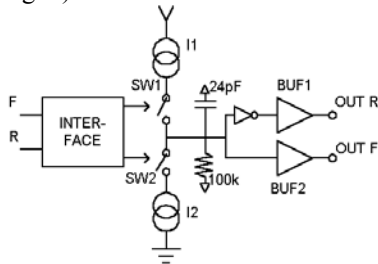
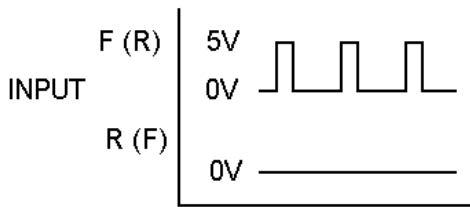
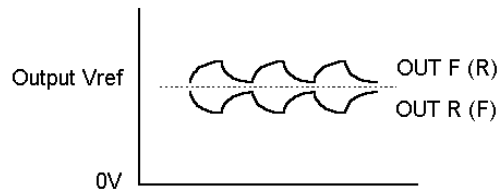

Fig. 1
Fig. 2
Fig. 3
(1) Fig. 2 shows the inputs from the digital servo IC for CH1-CH3 drivers (all drivers except the spindle). SW1 is on when the forward input signal (HIGH level, over 2.4V) is present. SW2 is on when the reverse input signal is present (Fig. 1). The constant current ( $I_1$ ) at this time enters the RC and generates an integral waveform based on the duty of the input waveform. The BTL is output from BUF1 and BUF2 (Fig. 3).
This can be increased by inserting a capacitor between point A (pins 3, 11 and 18) and  $V_{REF}$ . The constant current ( $I_{const}$ ) given in the electrical characteristics refers to  $I_1$  and  $I_2$  in Fig.1.